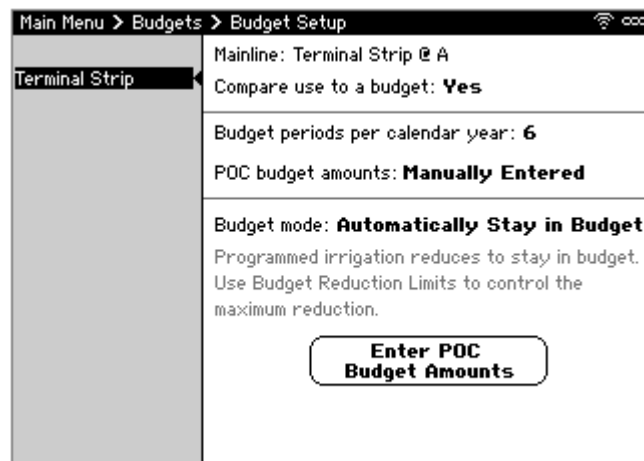

Figure 56: Manually Entered Budget Setup Screen
- If selecting **Manually Entered** (Figure 56):